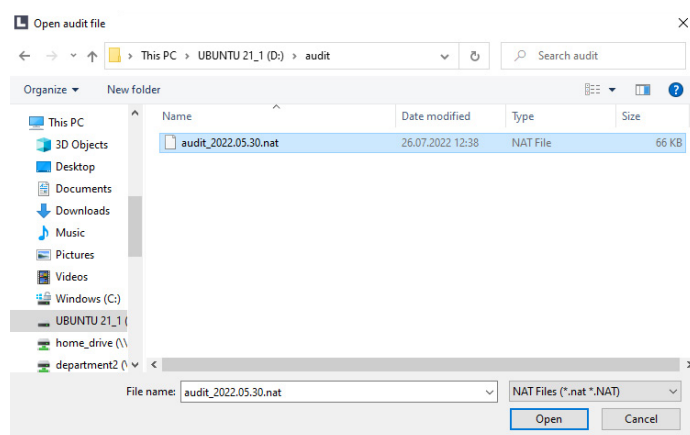

Figure 9: Open audit trail file
- Navigate to the respective folder on the USB stick and select the previously exported audit trail file (Figure 9)